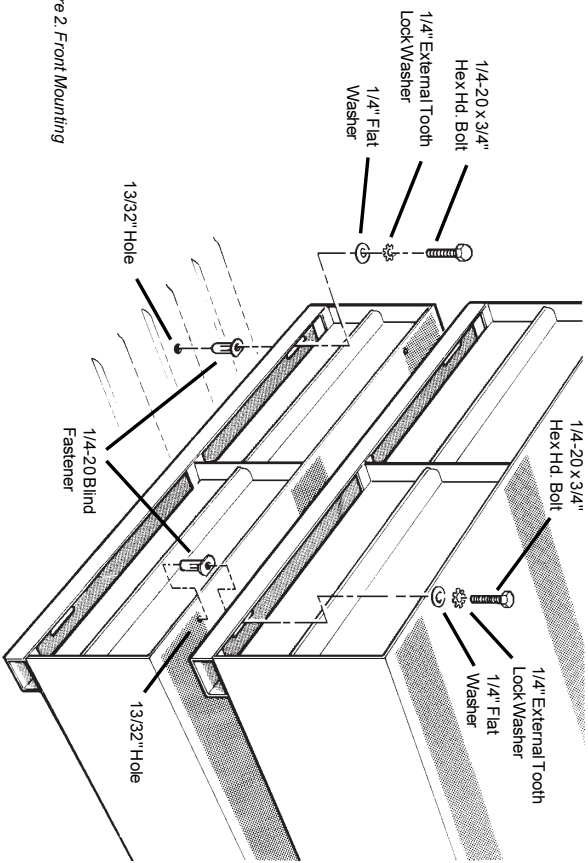

Figure 2. Front Mounting
1. Position the lower Drawer Unit in the vehicle, making sure the obround holes in the front skids are on top of the floor ribs (as shown in Figure 2). Mark the floor through the obround holes.
6. Place the upper Drawer Unit on top of the previously installed lower unit. Align with the front of the lower unit (see Figure 2). Mark through the front skid obround holes to the lower unit.